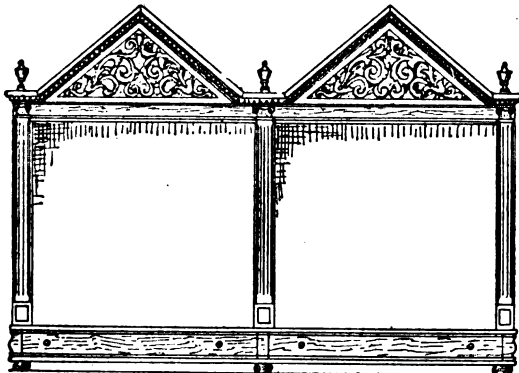
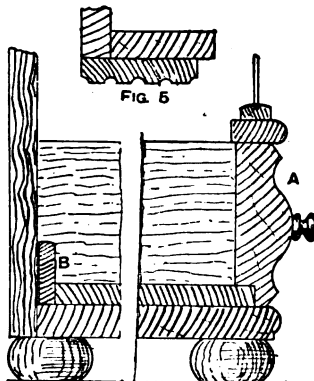
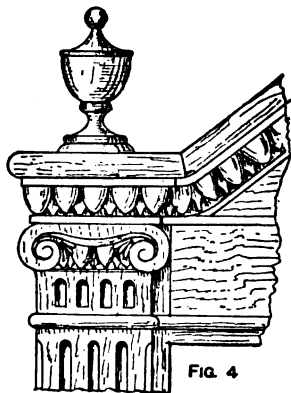
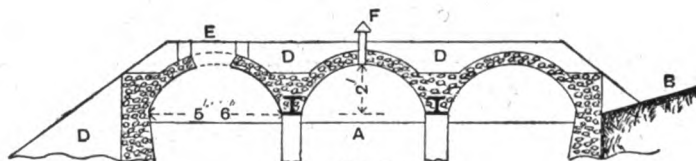

FIG. 1
FIG. 3
FIG. 4
FIG. 2
**Breeding Cage for Canaries.**—Figs. 1 and 2 are front and side elevations respectively of a double breeding cage 3 ft. long and 1 ft. 8 in. high. The wirework fronts are omitted, as it is preferable to buy these ready made. The cage is divided in the centre by a partition that may be made to slide in from the back. Mahogany, walnut, or oak may be used for the woodwork forming the front and outer portions of the cage. Fig. 3 shows
an enlarged section through the drawer at the bottom of the cage. The front is moulded as at A, and the back of the drawer is shown at B. Fig. 4 is an enlarged detail of one of the pilasters, with a portion of the top moulding. The ovolo moulding, with the egg-and-tongue enrichment, may be bought ready prepared, either in pressed or machine carved wood. Fig. 5 gives a sectional plan through the pilaster. The pediments over the centre of both divisions of the cage may be filled in with fretwork, as shown in Fig. 1, or may be carved.
**Open or Covered Reservoir for Storing Water.**—Fig. 1 shows an uncovered reservoir (with dimensions) capable of containing 12,000 gal.; this reservoir is suitable for the storage of water intended for manufacturing and irrigation purposes only. Water for domestic use should be stored in a covered reservoir; a suitable roof for Fig. 1 is shown in Fig. 2. On the top of a covered reservoir 1 ft. to 2 ft. of earth should be placed, in order to keep the water cool, and ventilators should be placed in the corners of the arches. The walls and bottom of the reservoir are built in concrete, and the inner surface is rendered with cement, which should be brought to a perfectly smooth surface with the trowel. The usual accessories are the inlet and outlet, the overflow, and wash-out pipes. The inlet may be fixed on the most convenient side, about halfway up the wall, and so
hooks round the stumps. Figs. 3 and 4 show elevation and plan of the tool. Figs. 5 and 6 show elevation and plan of the levers A and B; F is a small roller which revolves when bending the hook. To make the hooks, take a piece of wire of the length required, and place it between the stumps, as shown by the dotted lines (Fig. 4), then place the levers in position, and work both of them round together; the arrows in Fig. 7 show direction in which the levers are to move, and the dotted lines show the hook after the levers have been pulled round. All the parts of the tool should be made of steel, and the wearing parts should be hardened. Make the stumps E and D slightly tapering, so that the hooks will slip off easy after they are bent.